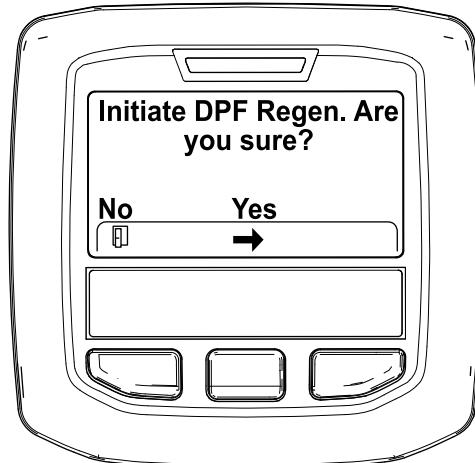

Figure 46
- When the “Initiate DPF Regen. Are you sure?” message displays, press the center button (Figure 46).